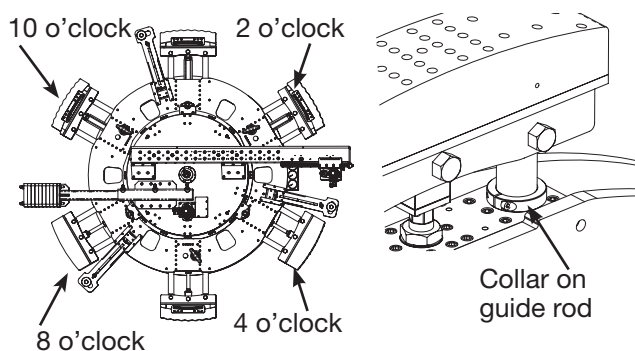

Figure 5: Guide rod collars
- To prevent the clamping feet, located at 4 and 8 o'clock initially (see figure 5), from rotating out of position, tighten two collars in total, one on each aforementioned extension leg. The collars
3. Now tighten two collars on the hydraulic clamping leg guide rods, located at 10 and 2 o'clock as described in section 5.4, and figure 5.